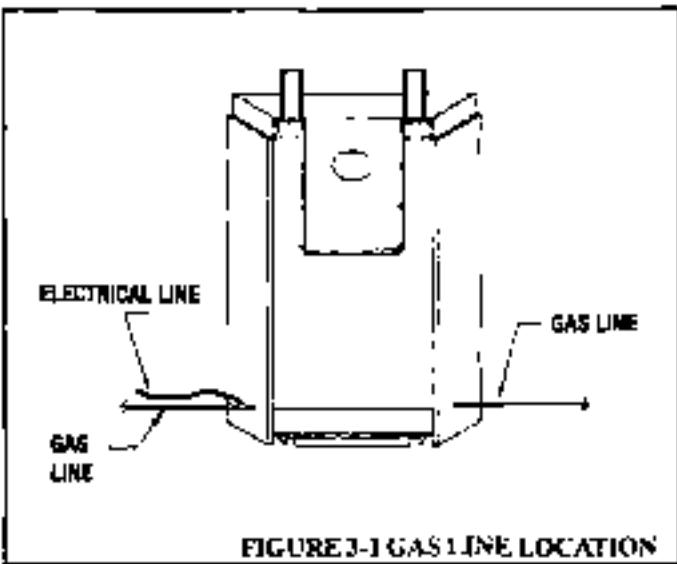

FIGURE 3-1 GAS LINE LOCATION
- The gas supply line can enter the access port on the left side panel. Refer to Figure 3-1.